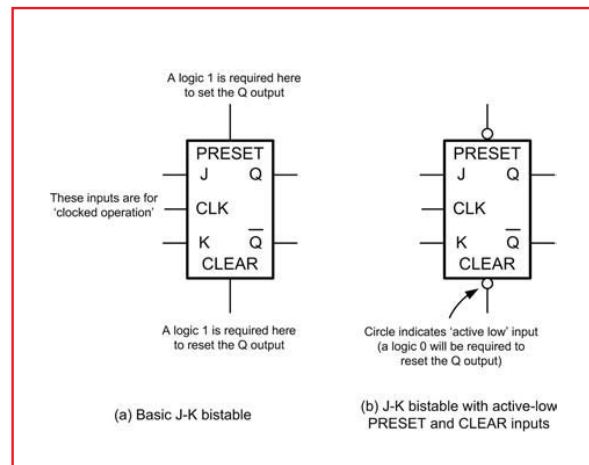

Fig.6.17. J-K bistable
J-K bistables (see Fig.6.17) have two clocked inputs (J and K), two direct inputs (PRESET and CLEAR), a CLOCK (CK) input, and outputs (Q and \bar{Q}). As with R-S bistables, the two outputs are complementary (ie, when one is 0 the other is 1, and *vice versa*). Similarly, the PRESET and CLEAR inputs are invariably both active low (ie, a 0 on the PRESET input will set the Q output to 1, whereas a 0 on the CLEAR input will set the Q output to 0). Fig.6.18 summarises the input and corresponding output states of a J-K bistable